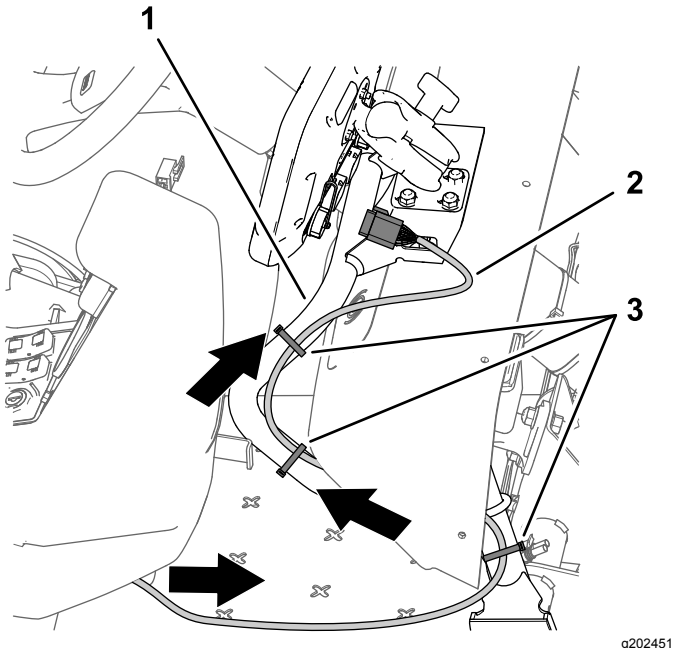

Figure 204
1. Route the 220 cm (86-5/8 inch) data-harness branch (the harness branch with the 26-socket connector) forward and under the dash panel (Figure 204).
2. Route the 220 cm (86-5/8 inch) data-harness branch along the support tube for the monitor (Figure 204).
4. Ensure that the 220 cm (86-5/8 inch) data-harness branch has enough slack to allow the sprayer operator to adjust the position of the monitor and secure the harness to the support tube for the monitor with cable ties as shown in Figure 204.